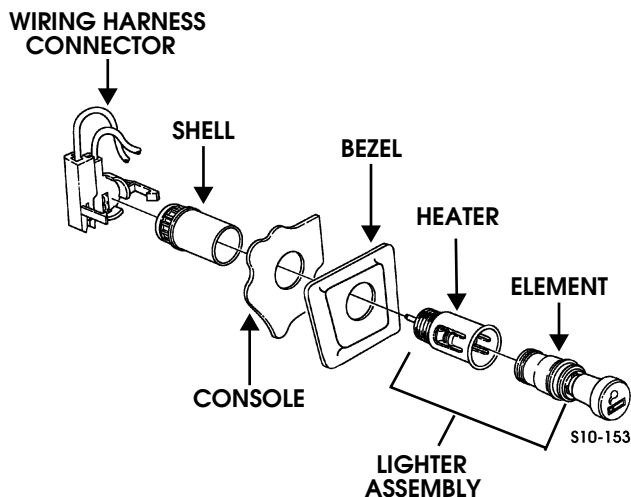

Figure 2-91: Cigarette Lighter Breakdown
3. Remove element from lighter assembly heater (Figure 2-91).
1. Install bezel and heater in console (Figure 2-91).